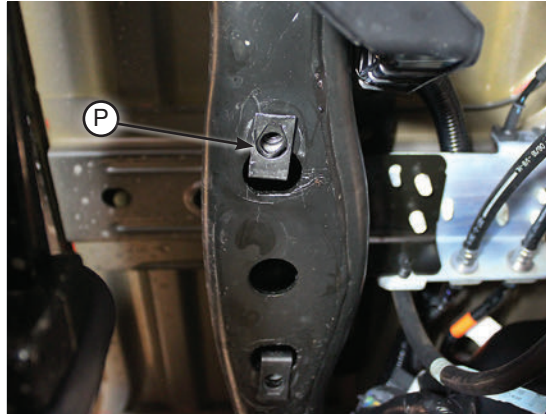

fig. D.4
4. Install the universal nuts (P) into the frame rail, lining up the holes in the frame and the threads in the nuts so that a bolt can be installed (Fig. D.4). **TECH TIP:** a flat-tip screwdriver works well in prying the universal nut into position.